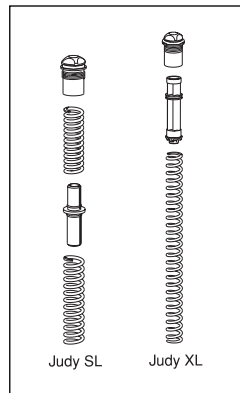

Fig. 3
2. Remove the spring stack assembly (Judy SL: top cap, primary coil spring, spacer and secondary coil spring. Judy XL: top cap, coil spring and spring spacer). See Fig. 3.